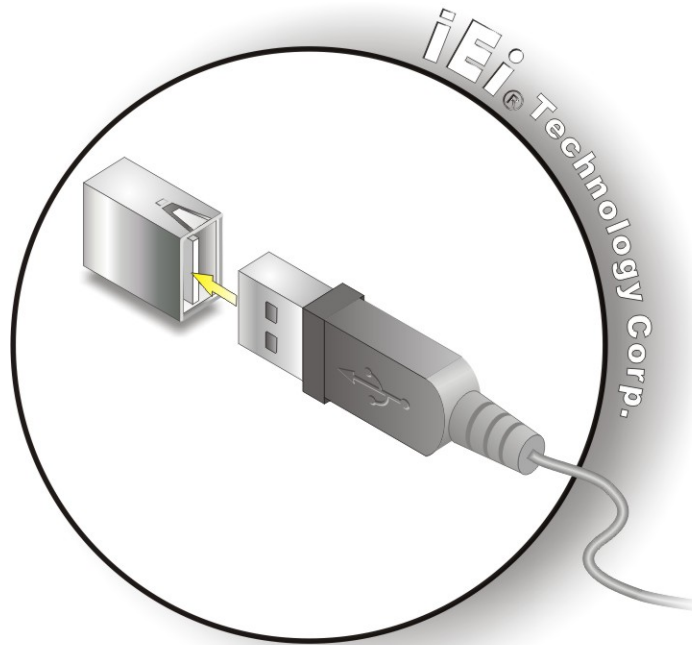

Figure 5-20: USB Connector
Step 2: **Insert a USB Series "A" plug.** Insert the USB Series "A" plug of a device into the USB Series "A" receptacle on the external peripheral interface. See **Figure 5-20**.